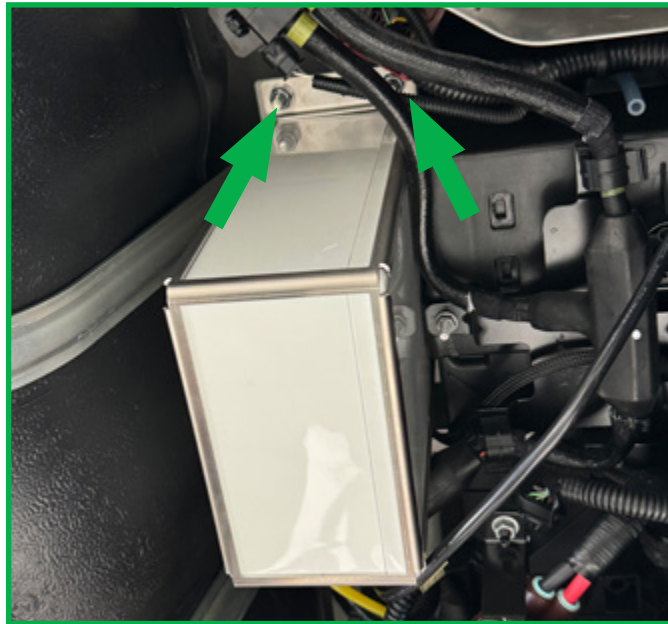

FIGURE 9
9. Mount the cage bracket with the console at the prepared holes. The cage bracket should fit snugly around the console enclosure. Position the console to the right side of the adapter bracket with the connecting ports pointing to left side of the vehicle. The tighten the four (4) M8 flange nuts (max. 25Nm). (Figure 9)